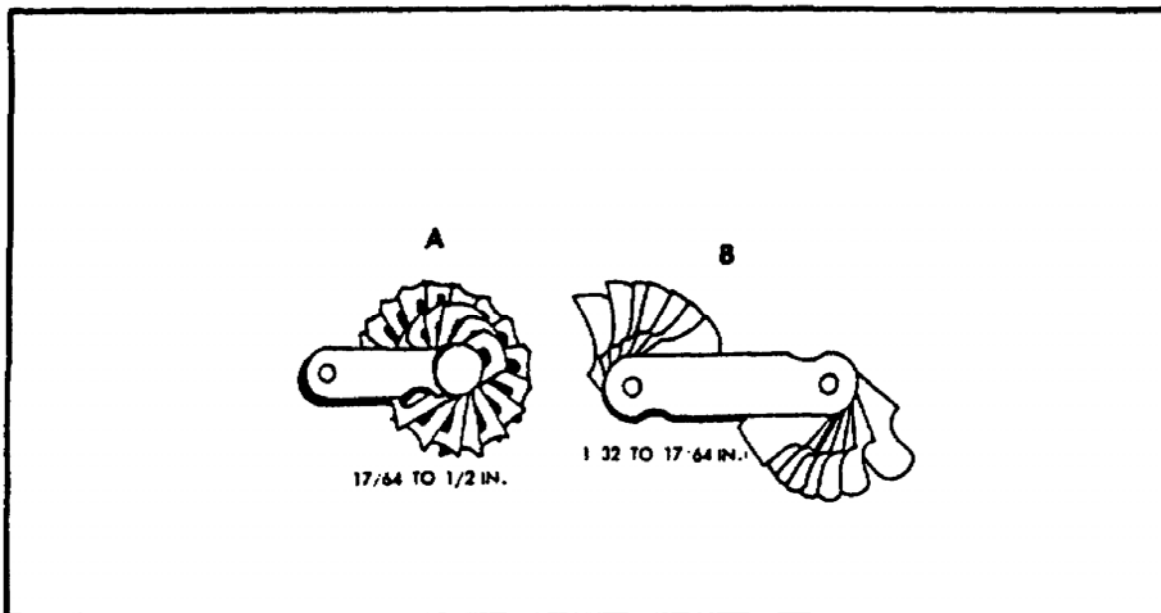

FIGURE 202. FILLET AND RADIUS GAGES.
g. *Types of Fillet and Radius Gages.* The blades of fillet and radius gages are made of hard rolled steel. The double ended blades of gage (figure 202, view A) have a lock which holds the blades in position. The inside and outside of the same radii are on one blade. The other gage (figure 202, view B) has separate blades for inside and outside measurements. Each blade of each gage is marked in 64ths. Gage A, figure 202, has a range of sizes from 17/64 to 1/2 inch. Gage B, figure 202, has a range of sizes from 1/32 to 17/64 inch. Each gage has 16 blades.